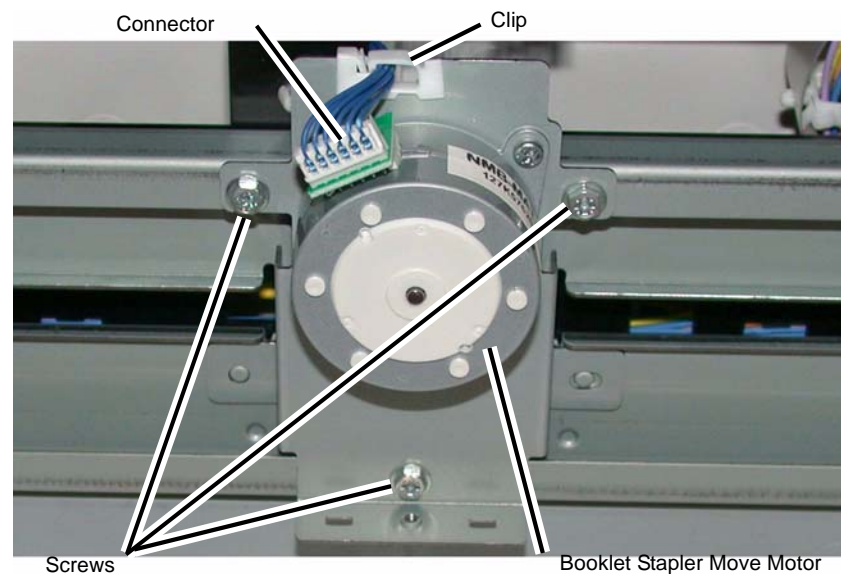

Figure 2 Removing the Booklet Stapler Move Motor
5. Remove the Booklet Stapler Move Motor (Figure 2).
- c. Remove the Screws (3).